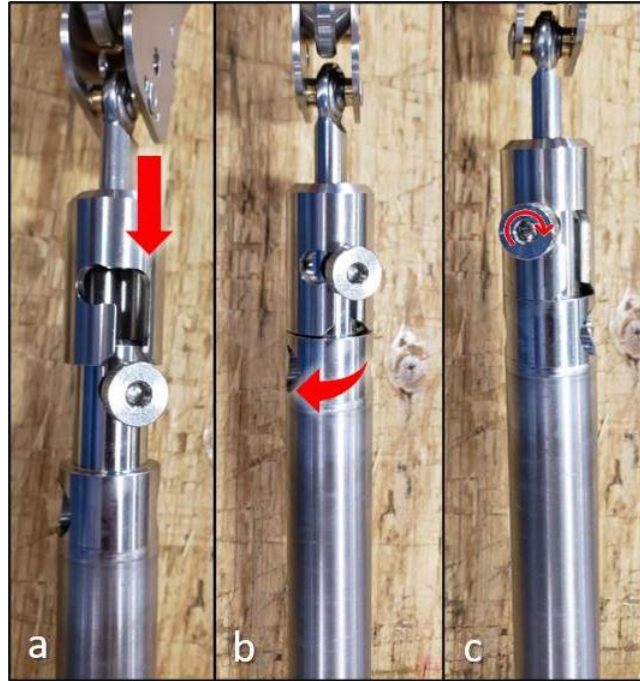

Figure 4: Attaching the Bay Rod
3. Loosen the shoulder bolt at the top of the IPI sensor. Slide the bay rod onto the sensor, aligning the shoulder bolt in the j-slot (see Figure 4, a). Twist the sensor counterclockwise (see Figure 4, b) into the seat of the j-slot and tighten the bolt (see Figure 4, c).